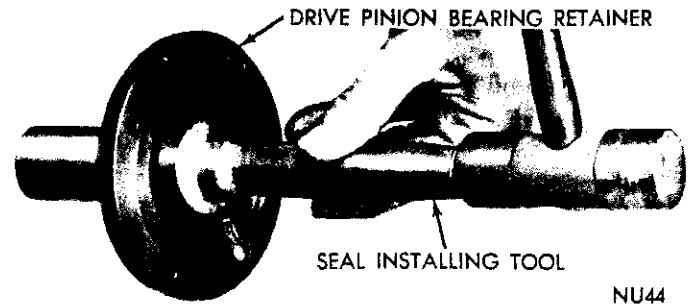

Fig. 30—Drive Pinion Seal Replacement
(7) Install a new seal in pinion bearing retainer, using Tool C-3789 (Fig. 30).
(8) Position retainer assembly and new gasket on the case. Use thread sealing compound on bolts then install and tighten to 30 foot-pounds.